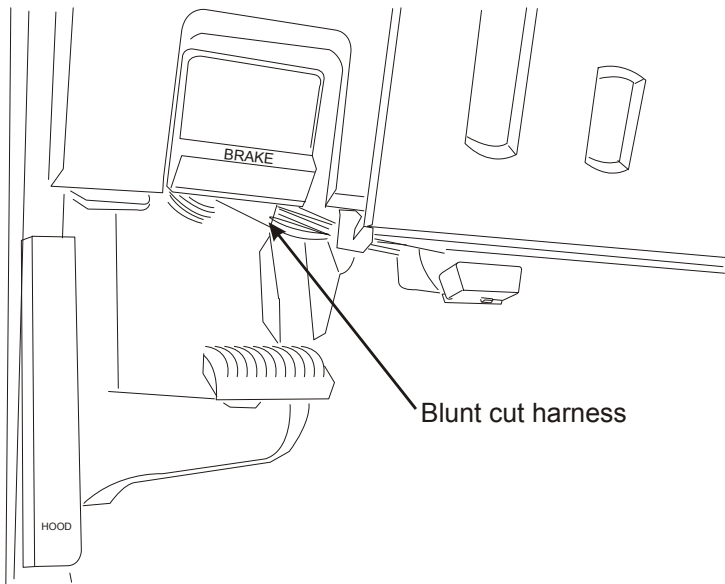

Figure 4.1
- Connect the single red wire from the interface connector to switched 12 volts. You can use circuit CBP44 (purple wire) located in the blunt cut bundle under the dash beside the park brake (Figure 4.1).